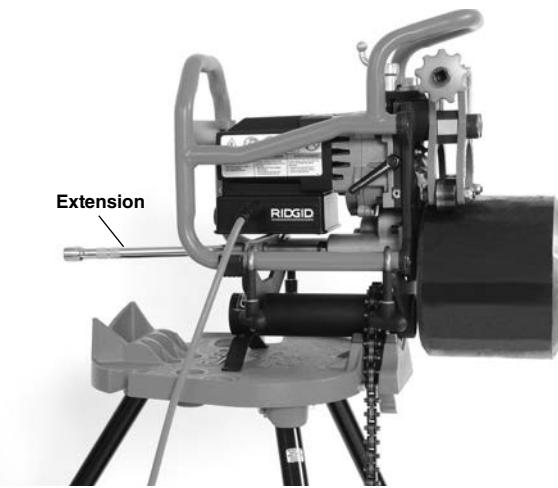

Figure 10 – Fixed Beveller, Pipe under 12" Long, under 50 Pounds
8. Install the supplied 10" long 1/2" drive extension in the Beveller drive shaft (see *Figure 10*).
9. When beveling pipe less than 12" (300 mm) long and less than 50 pounds (22 kg), as long as the beveller and Portable TRISTAND Pipe Vise are stable and secure, no pipe stand is needed to support the pipe. Pipe is placed directly on the drive roll and secured with the guide rolls (*Figure 10*).
Confirm that the beveller, pipe stands and pipe have been properly set up (see *Figures 10, 12 and 13*).